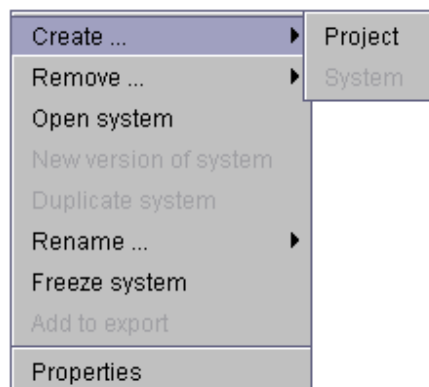

Figure 118 : Contextual menu – Create project
- ◆ Use the **File – New...- Project** menu or click on a project name with the mouse right button to gain access to the contextual menu (Figure 118).
- ◆ Use the **Remove...- Project** command in the contextual menu (Figure 118).
- ♦ Click on the system name with the mouse right button to gain access to the contextual menu (Figure 118).
- Double click on the system name to gain access to the tree structure system versions (Figure 118).
- Click on the system name with the mouse right button to gain access to the popup menu (Figure 118).
- Click on the system name with the mouse right button to gain access to the contextual menu (Figure 118).